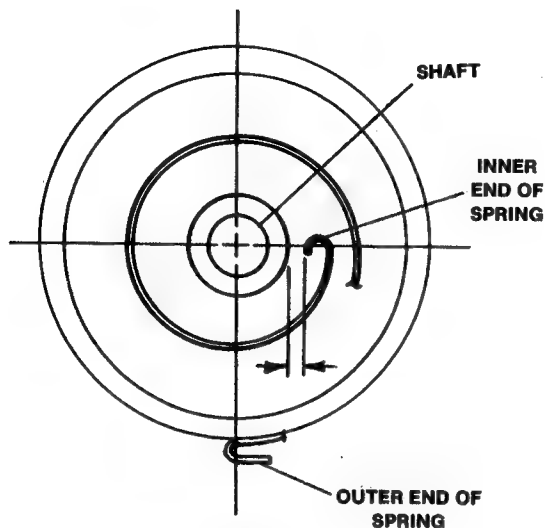

FIGURE 5.5
- B. Adjust spring inside starter housing until inner end of spring is positioned about 1/8 inch from shaft as shown in Figure 5.5 (This positions the spring end for easy engagement with reel hook).